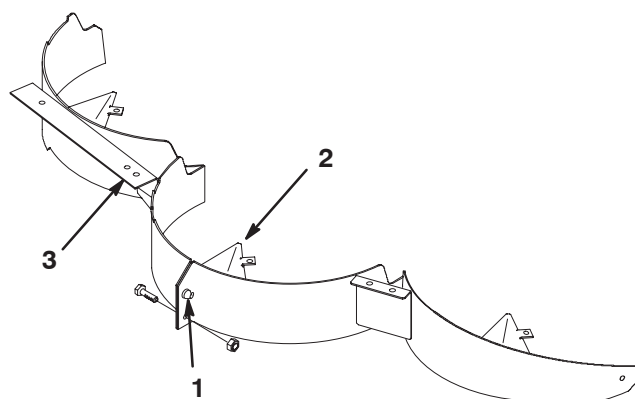

Figure 4
3. Position the baffle sides together using the alignment pin on the flanges (Fig. 4).
2. Baffle kicker (3)
5. Using the baffles as templates, mark the hole locations for the remainder of the holes in the mower housing (Fig. 4). Only drill one additional hole for mounting the right baffle flange (Fig. 4).
7. Secure the baffle flanges together with a 5/16-18 x 5/8" bolt and 5/16" locknut (Fig. 4).